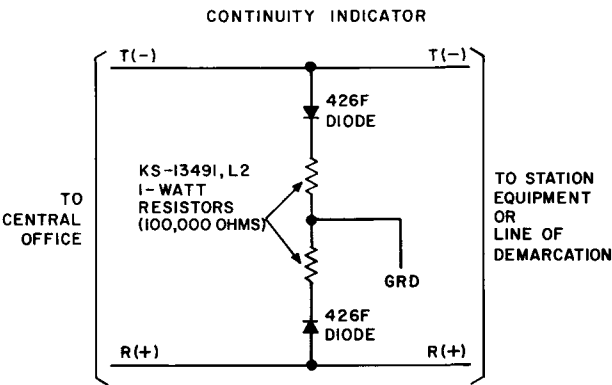

Fig. 6—DC Telegraph Loop Continuity Indicator (Alternate Method)
6.03 For dc telegraph loops having Telephone Company maintained (TCM) equipment, the continuity indicator shall be mounted on the terminating connecting block and installed as close to the equipment as possible. This block will be considered the line of demarcation. The indicators for neutral and polar operation, as shown in Fig. 2 and 3 respectively, or Fig. 6 will be used for this type of facility.